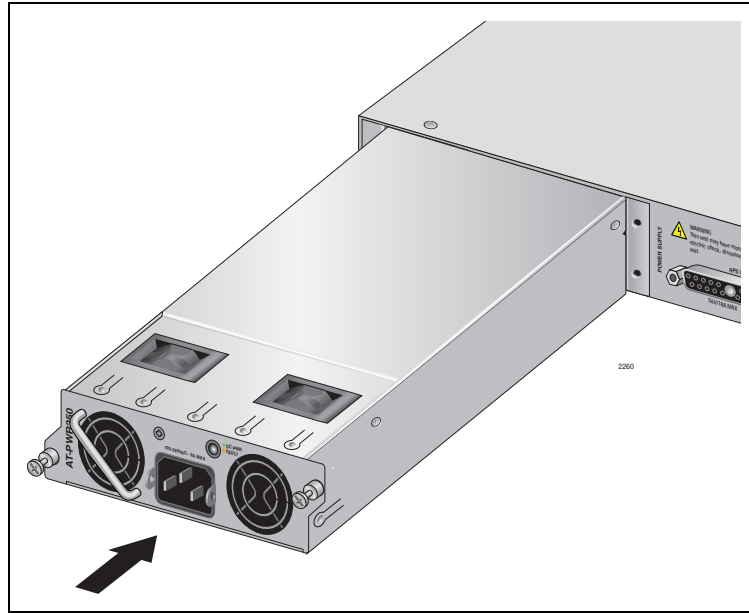
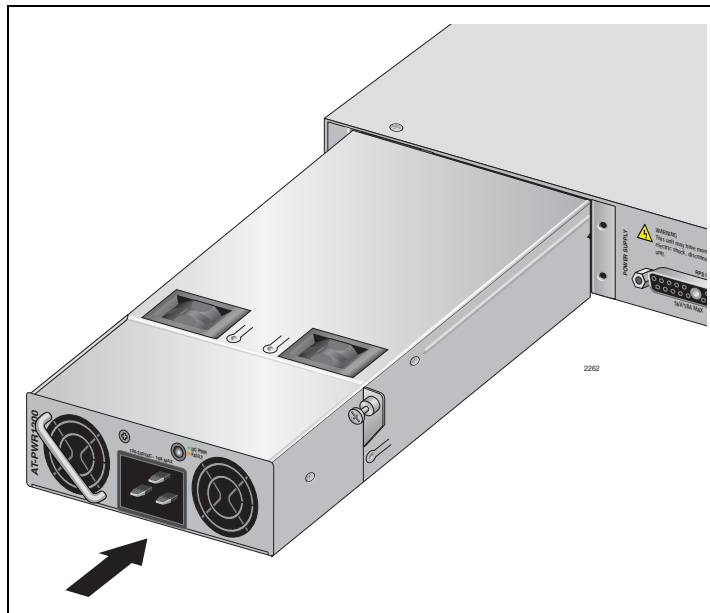

Figure 48. Installing the AT-PWR250 AC Power Supply Module
Figure 51. Installing the AT-PWR1200 Power Supply Module
3. Align the edges of power supply module with the guides in the slot and carefully slide the module into the chassis until it is flush with the rear panel of the chassis, as shown in Figure 48 on page 84 through Figure 51 on page 85. Light pressure may be needed to seat the module on the connector on the rear panel of the chassis.